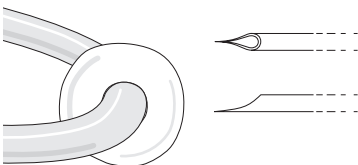

Fig. 25— Pipette has a sharp tip
5. The resulting tip (Fig. 25) has a very sharp point for clean cell penetration.